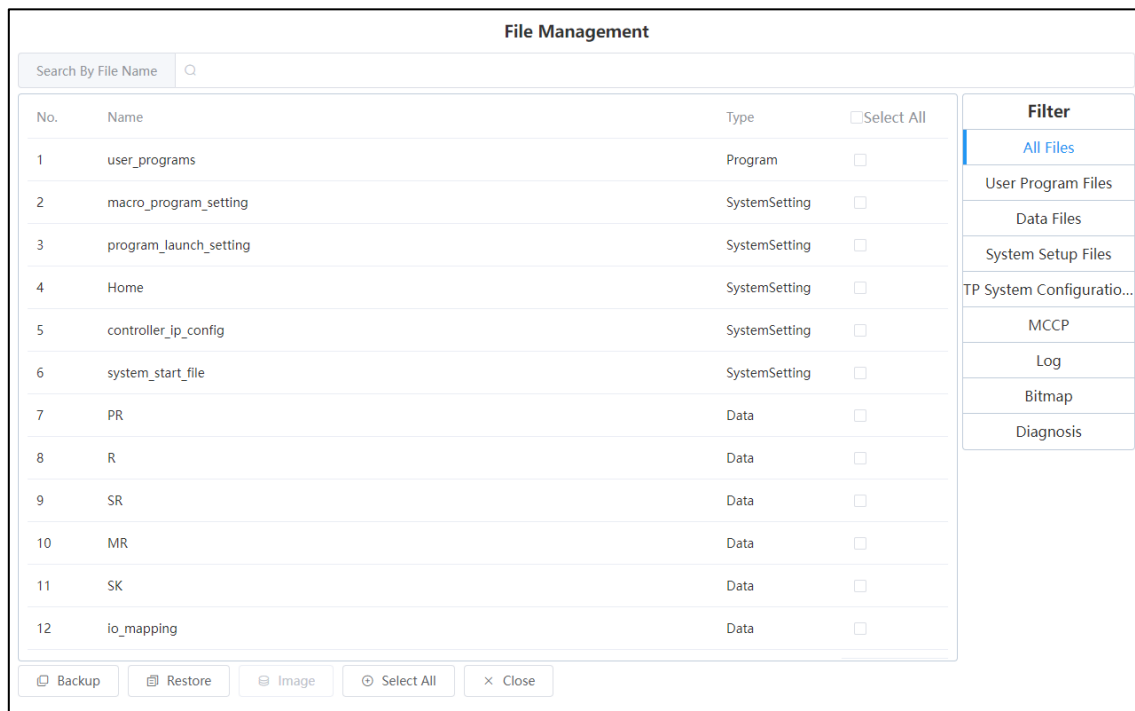

Fig. 7.1 File Management Interface
1. Switch the robot to the SERVO_OFF state. Click "Menu Button" → "Management" → "File Management" → "Backup" and open the file management interface, as shown in Fig. 7.1.